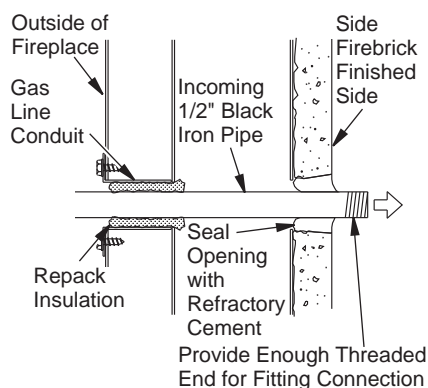

Figure 25 - Gas Line Installation
3. Run gas line into the fireplace through the rear at 11 1/4" from floor and through gas line conduit sleeve (if using a raised platform, add height). Provide sufficient gas line into fireplace chamber for fitting connection (see Figure 25).